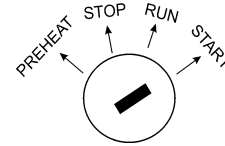

Figure 19. Ignition Switch 'START'
8. Once the preheat indicator lights, turn the ignition key to 'START' until the engine starts (Figure 19). Then release the key to 'RUN'.